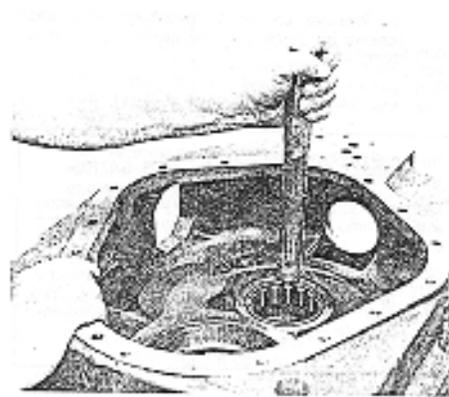

Figure 33. Installing Roller Bearing in Housing.
1. If necessary install new roller bearing in housing and secure with snap ring. See fig 33.